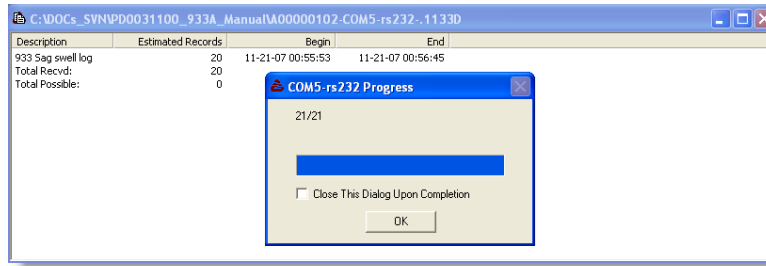

Figure 5.15: Downloaded Power-Quality Event Data
3. In the SaveAs window, choose a file name and click OK to save the file log. During this time a window will appear (see Figure 5.15) that indicates both the progress and the record files being transferred from the 933A to a file on your computer.